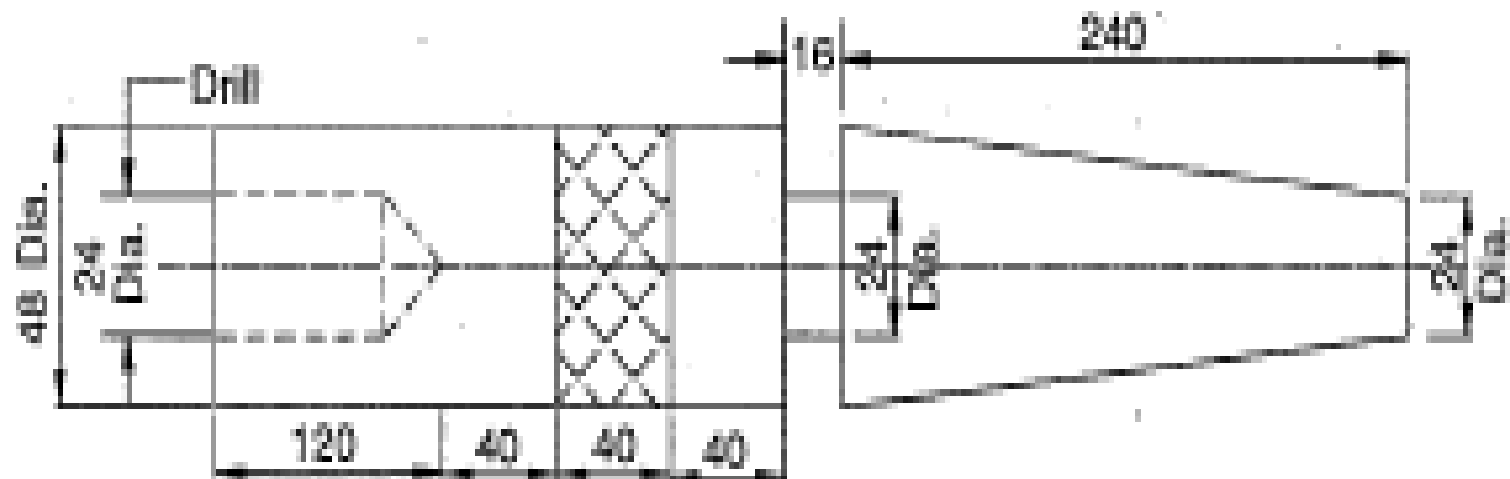

Figure 6.11 Figure for question 12.
12. List the various operations involved to make the job shown in Fig. 6.11 from a raw workpiece of size 500 mm length and 50 mm diameter.